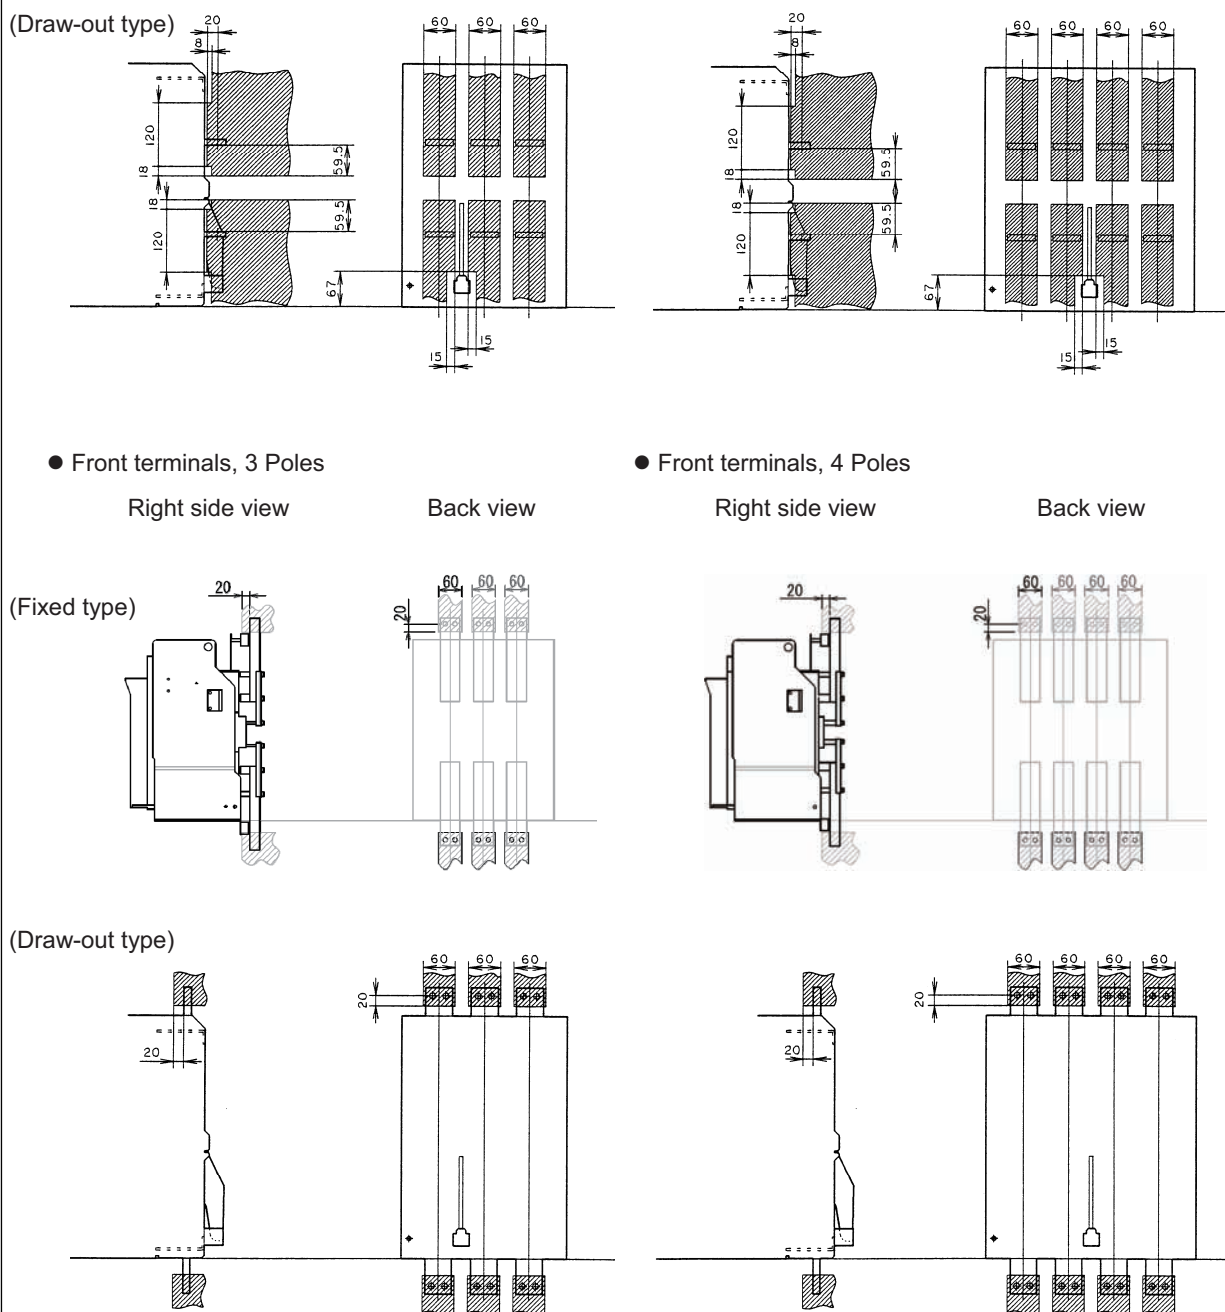

Fig. 6 Conductor (include screw) connection area (AR208S, AR212S, AR216S, AR220S, AR212H, AR220H) (2/2)
- Connect conductors to the main circuit terminals in the conductor connection area as shown in Figs. 6 - 9.